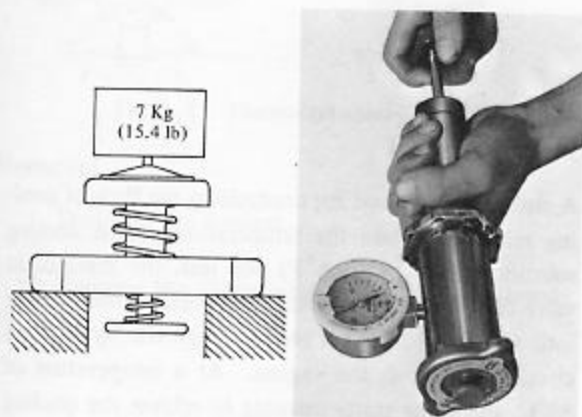

Fig. 7-3 Checking radiator cap
3. Check the reverse valve of the radiator cap for its condition. This should be checked using a pressure gauge as shown in Fig. 7-3.